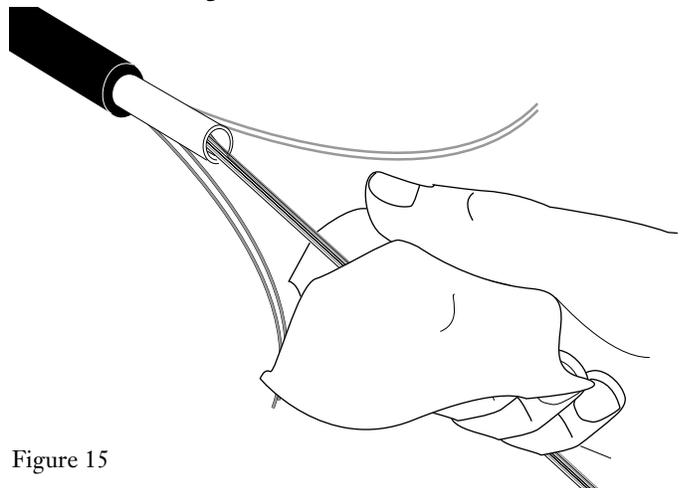

Figure 15
- 5.5 If necessary, wipe the ribbons with a dry, lint free cloth or tissue (Figure 15).